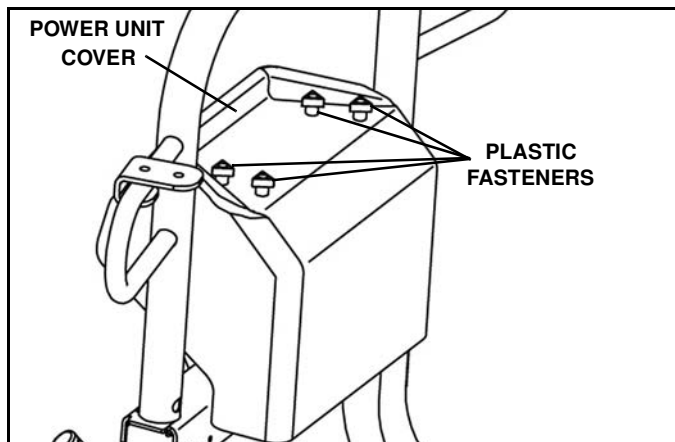

Figure 1-44
3. Unscrew and remove the plastic fasteners from the cover and remove the cover. (See Figure 1-44).